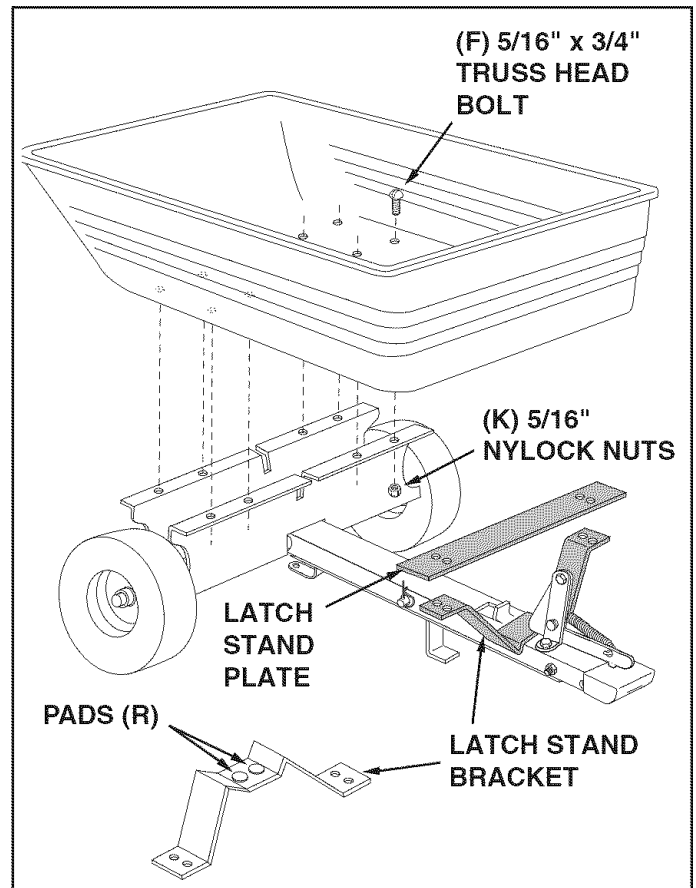
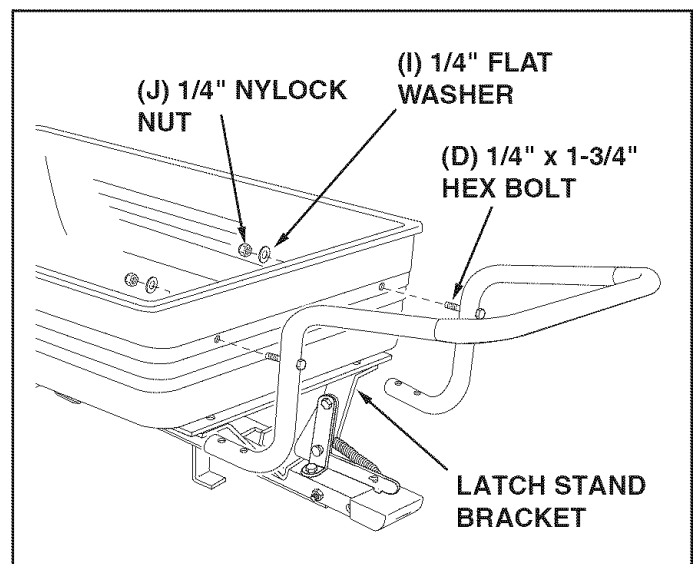

FIGURE 7
FIGURE 8
STEP 7: (SEE FIGURE 7)
- Attach two noise reduction pads (R) to the bottom of the latch stand bracket.
- Turn the assembled tongue, wheel support and wheels over to the upright position. Place the latch stand bracket onto the tongue between the latch lock assembly and the raised tab. Place the poly tray onto the wheel support and latch stand bracket. Fasten the tray to the wheel support using eight 5/16" x 3/4" truss head bolts (F) and 5/16" nylock nuts (K). **Do not tighten yet.**
STEP 8: (SEE FIGURE 8)
- Insert two 1/4" x 1-3/4" hex bolts (D) through the handle tube as shown in figure 8. Holding the bolts in place in the handle, insert the bolts through the holes in the poly tray, allowing the legs of the handle to slip beneath the latch stand bracket. Secure the two bolts with two 1/4" flat washers (I) and 1/4" nylock nuts (J). **Do not tighten yet.**